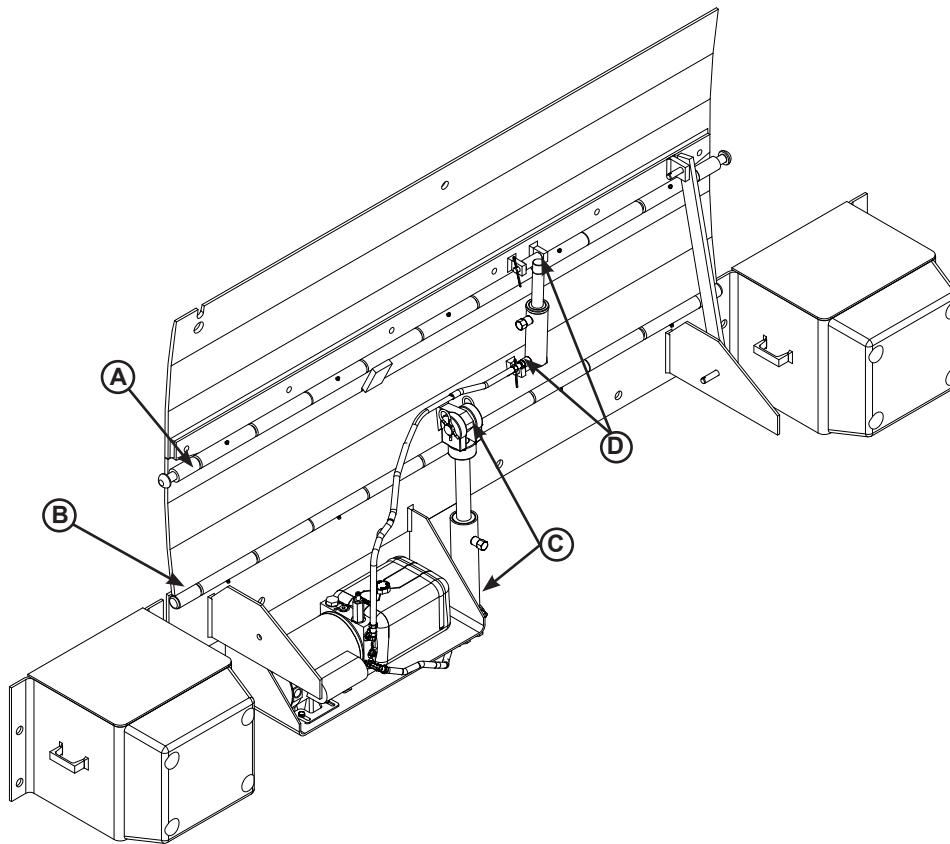

Figure 17
- Lubricate the following areas with light weight machine oil (see Figure 17):
- (A) — Lip hinge area unless equipped with grease fittings (apply oil to the top of the entire length of lip hinge when platform is at the full below-dock position and lip is folded)
- (B) — Platform rear hinge area (apply oil to top of all platform hinges when platform is at the full below-dock position)
- (C) — Platform cylinder pins
- (D) — Lip cylinder pins